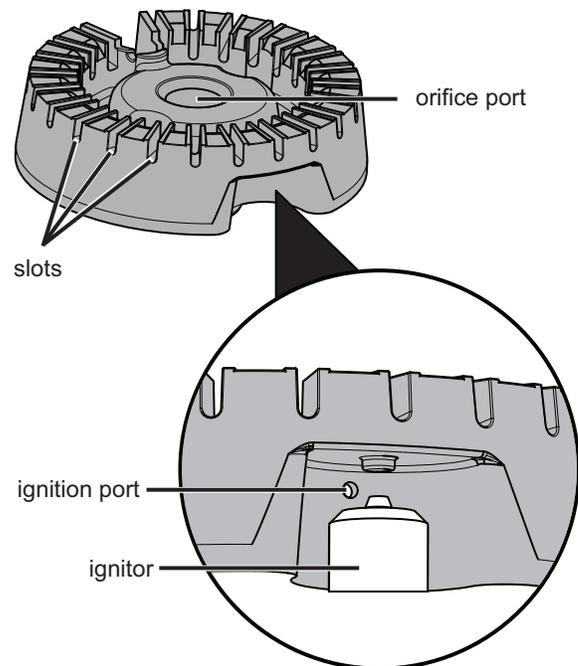

Figure 26: Sealed burner components
3. Use a toothbrush to clean all over the burner head (see Figure 26).
4. Use the toothbrush to clean the slots and holes in the burner (see Figure 26).
5. Use a needle or fine wire to clean out the ignition port (see Figure 26).